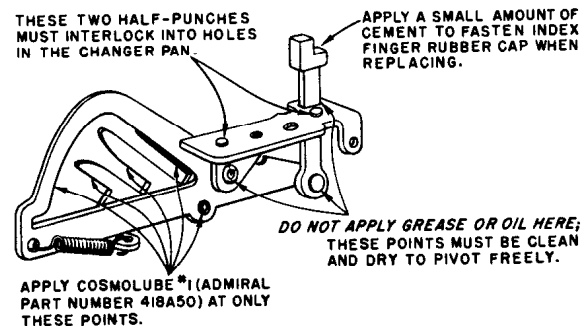

Figure 10. Set-Down Index Assembly.
Before lubricating the set-down index (69), see figure 10. Grease or oil must not exist at certain points of the set-down index. This assembly must be clean and dry at these points in order to pivot freely of its own weight.
Although the set-down index is factory assembled and requires no adjustment, some care is required when it is being replaced. The top surface of the set-down index bracket mounts to the changer pan and is positioned by two 1/8 inch diameter half-punches which interlock in holes in the changer pan. A #6-32 machine screw secures the set-down index in place. See figure 10.